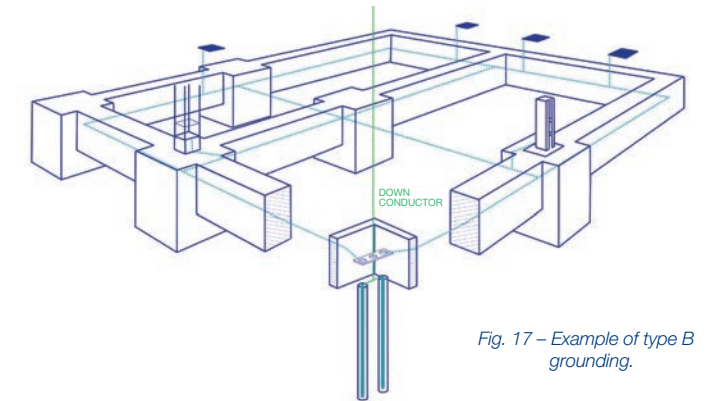

Fig. 17 – Example of type B grounding.
**GROUND TYPE B:** ring electrode, this arrangement is a conductive ring in contact with the ground 80% of its length. It may be external to the electrode structure or foundation. Each down conductor, besides being connected to the ring, is to be further connected to a horizontal electrode at either at least a 4 m vertical electrode or to a minimum length of 2 m (see Fig.17).